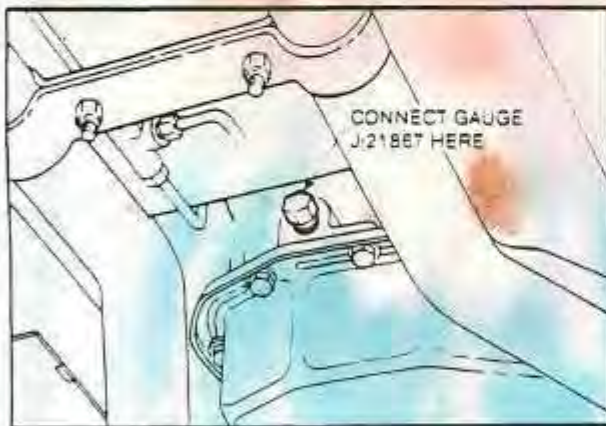

Fig. 13 CHECKING TRANSMISSION FLUID PRESSURE
1. Connect the transmission pressure gauge J21867 to the main line pressure fitting located at the front of the transmission below the transmission pump. Fig. 13